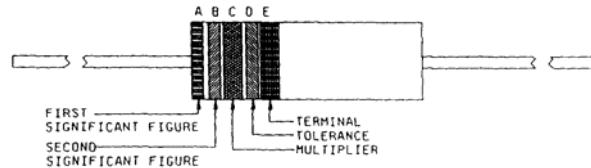

FIGURE B-1. Color-code marking for film-type resistors.
B.4.1 Color coding. The nominal resistance value, resistance tolerance, and terminal type resistors shall be indicated by five bands of color, as shown on figure B-1. The applicable colors to be used shall be as specified in table B-II.